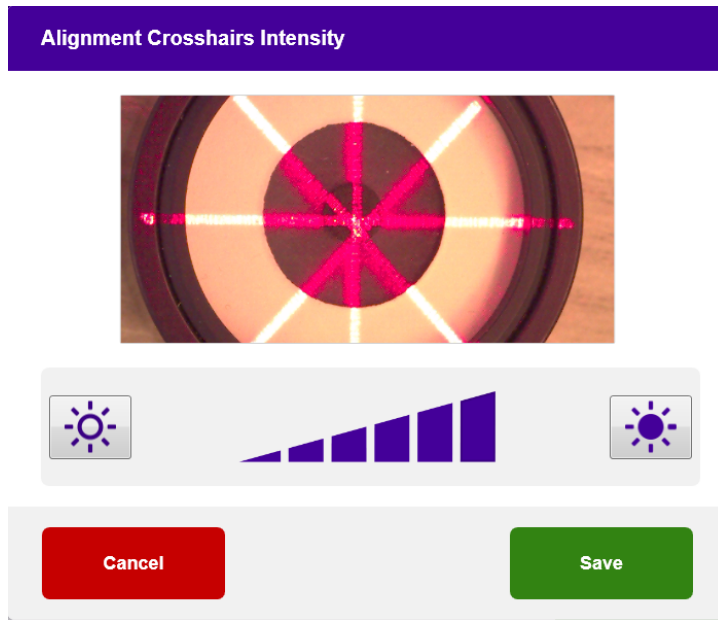

Figure 3-33. Alignment Crosshairs Intensity
- Select "Alignment Crosshairs Intensity" from the System Settings menu to alter the brightness of the alignment crosshairs. The screen shown in Figure 3-33 will appear.